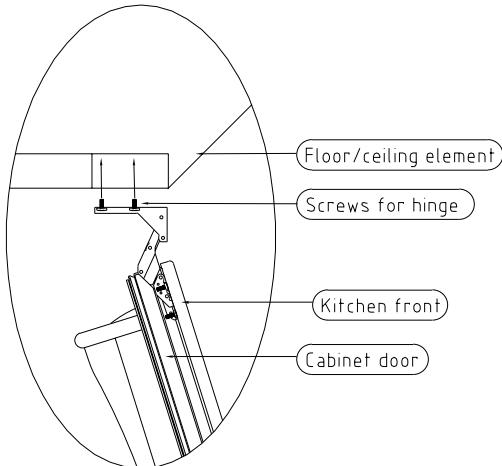

Fig 5
4. Fitting furniture fronts (see figures 5, 6 and 7)
- Cabinet door.** Remove hinge retaining screws in floor and ceiling on side selected for hinges using Allen key supplied. Open hinges fitted on fridge door. Hold door open, while inserting hinge screws through holes in hinges. Finger tighten (do not tighten fully) screws in floor and ceiling – see fig. 5. **NOTE: If working alone, place a support under fridge door at correct height for hinges. Allow door to rest on this while screwing hinges into place.**